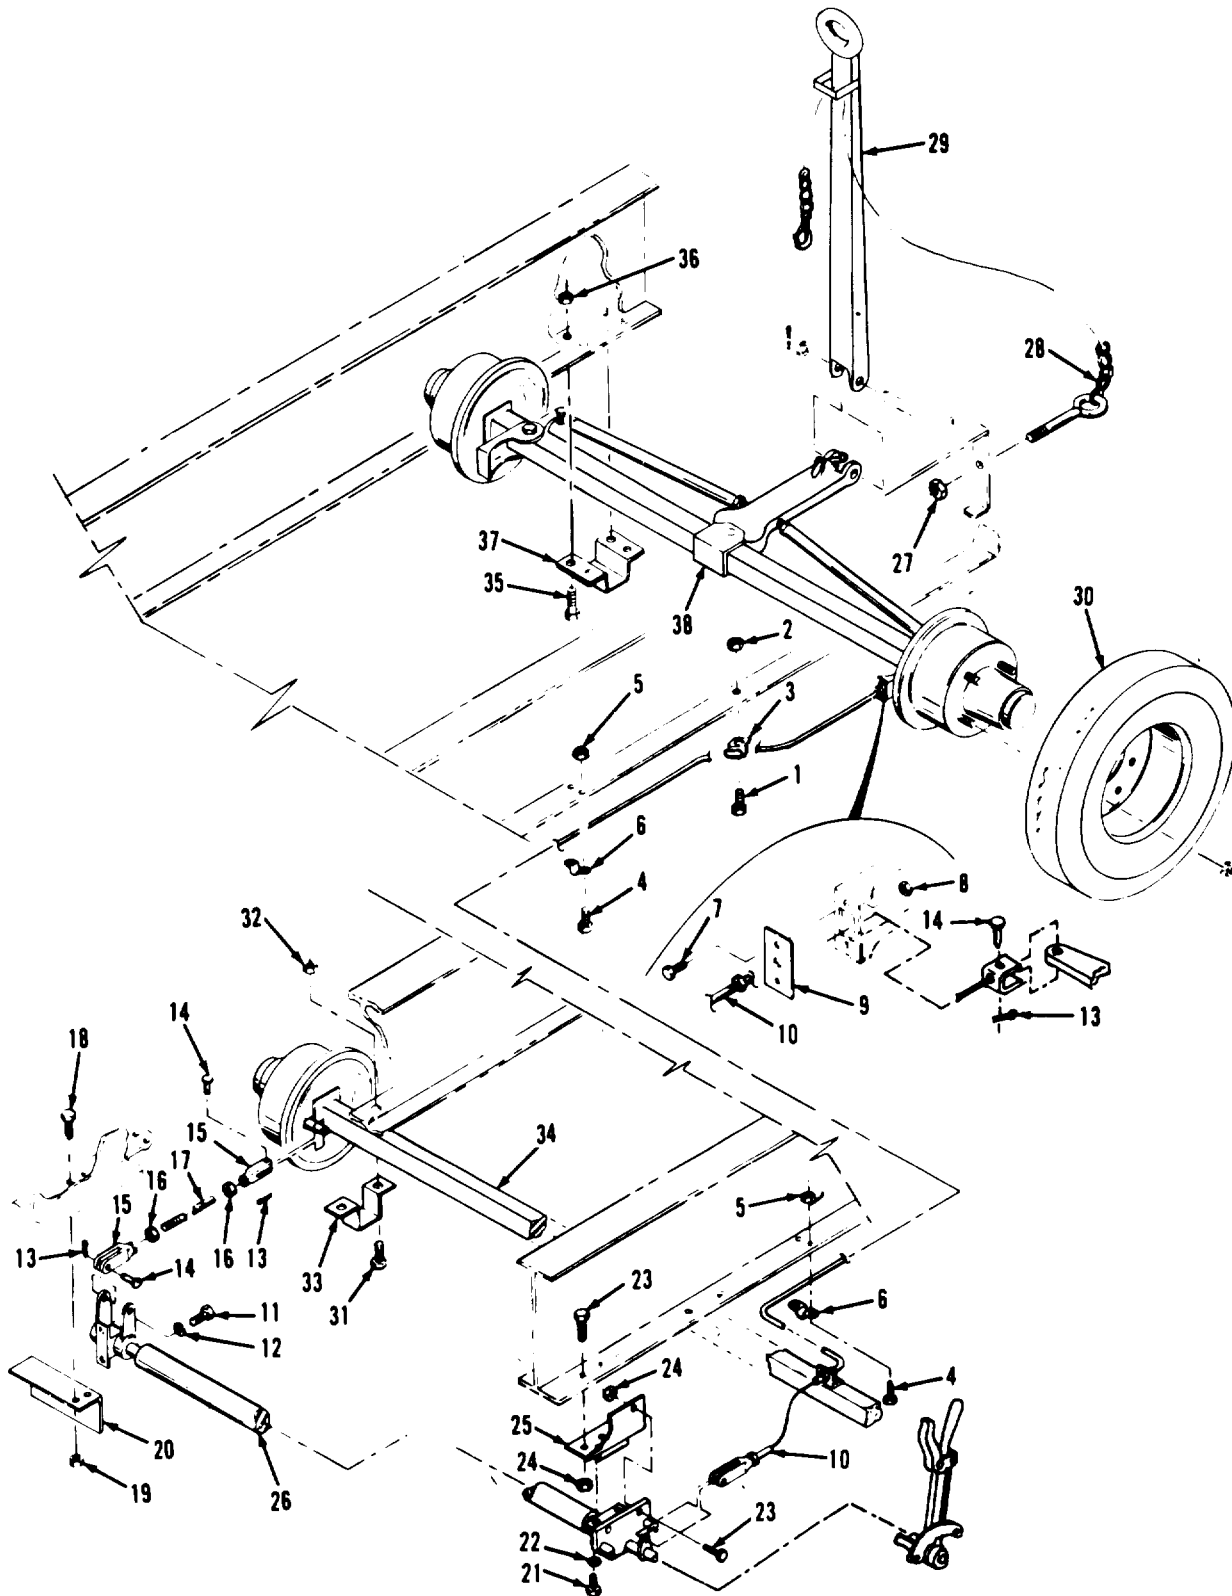

Figure 2-7. Wheel mounting kit, removal and installation
a. Removal. Refer to figure 2-7 and remove wheel mounting kit in the order of index numbers assigned. Pay particular attention to the following:
b. Installation. Refer to figure 2-7 and install wheel mounting kit in the reverse order of index numbers assigned. Pay particular attention to the following:
Legend to figure 2-7: